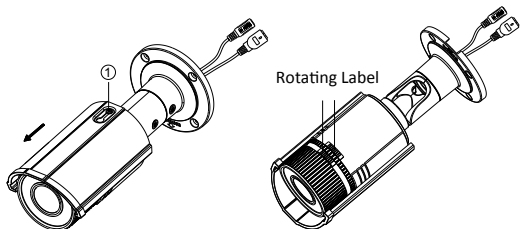

Figure 2-3 Assemble the Camera
- The foam ring around the lens must be seated flush against the inner surface of the glass to isolate the lens from the IR LEDs. When re-installing the front cover make sure to align the the rotating label on the front cover with that on the camera to insure the foam ring is correctly seated against the glass. See figure 2.3.
6. Slide the sun shield according to the arrow direction as shown in Figure 2-3(left).
For water-proof, please align the rotating label on the front cover with that on the camera when you rotate the front cover clockwise. Refer to Figure 2-3(right).